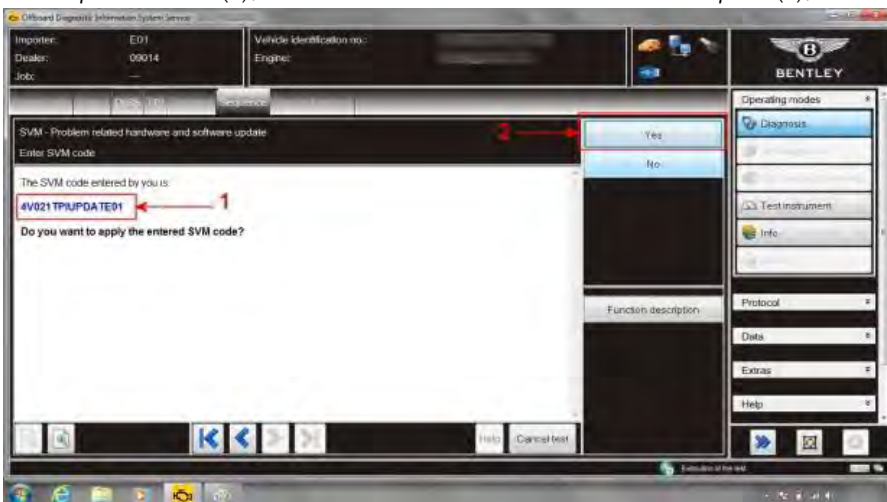

Figure 3
9. At SVM screen enter (1) the specific SVM code 4V021 TPIUPDATE01 and then **Yes** (2) (see Figure 3)